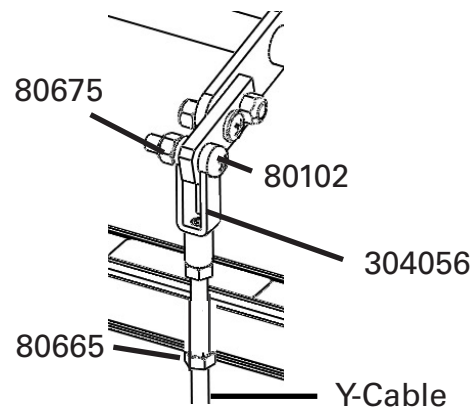

Figure 8
4. Thread one 1/4"-28 jam nut (80665) all the way on the upper end of the Y-cable. Thread the yoke end (304056) onto the threaded stud as illustrated in Figure 8. You will adjust the final position of the yoke and jam nut on the next page.
1. Loosen the jam nut (80665) below the yoke end (304056) at the top of the Y-cable using a 7/16" wrench (see Figure 8 on page 5).
4. Attach the cable to the brake handle actuator tab with a 1/4"-20 x 1" long pan head machine screw (80102) and 1/4"-20 locknut (80675) as shown in Figure 8 on page 5.